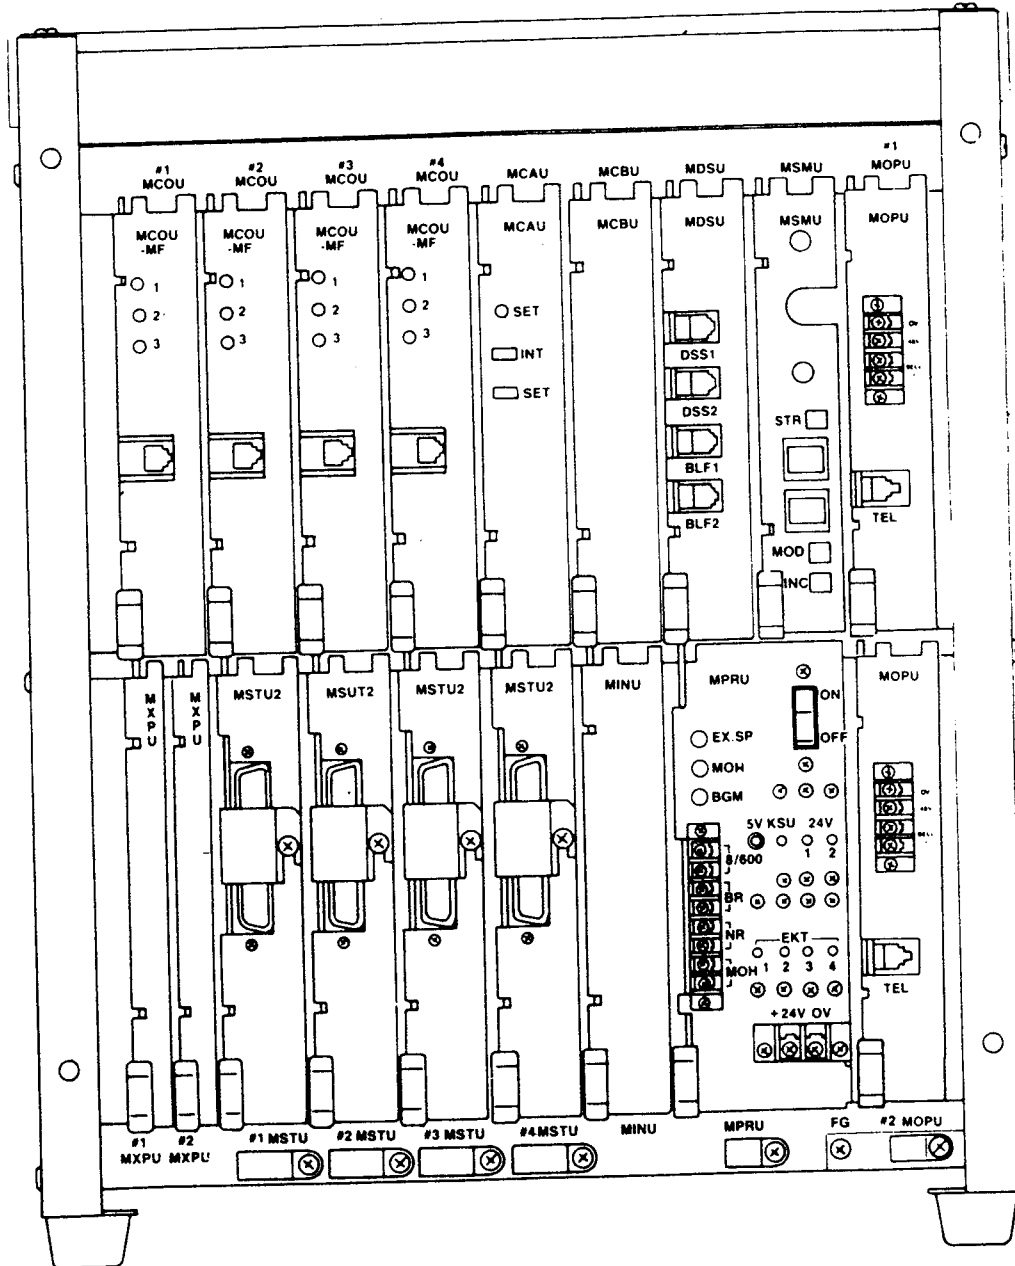

FIGURE 15—PCBs IN MKSU (STRATA XII)
06.02 Install the MPRU PCB in its proper slot in the MKSU (Figures 15 & 16).
PCBs (Figures 15 and 16).
07.11 Install the MCAU/AMMU and MCBU PCBs in their correct MKSU positions (Figures 15 and 16).
07.12 Install the MINU in the correct MKSU position (Figures 15 and 16).
07.14 Follow the position arrangements indicated in Figures 15 and 16, and install the required MSTU PCBs.
07.15 Select the proper type of MCOU PCB (MF or DP) and install the required number in the positions shown in Figures 15 and 16.
07.16 If the system is to be equipped with a DSS console, install an MDSU in the correct MKSU position (Figures 15 and 16).
07.21 If the system is to be equipped with Station Message Detail Recording (SMDR), an MSMU must be installed in the correct location per Figures 15 and 16. Install the MSMU as follows:
07.31 If the system is to be equipped with conventional telephones or OPX extensions, MOPU PCBs are required; refer to Figures 15 and 16 for proper locations.